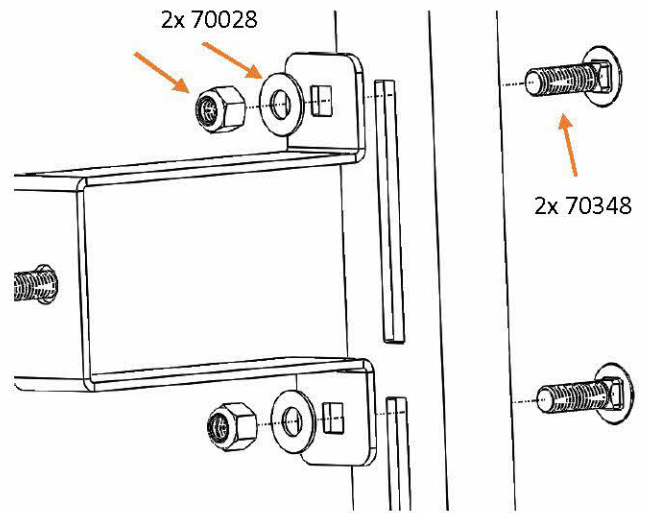

Figure 3: Mounting Tire Bracket
5. Loosely fasten the Tire Mount Bracket to the slotted channel using the 3/8" carriage head bolts, washer, and nuts to mount. Reference Figure 3.